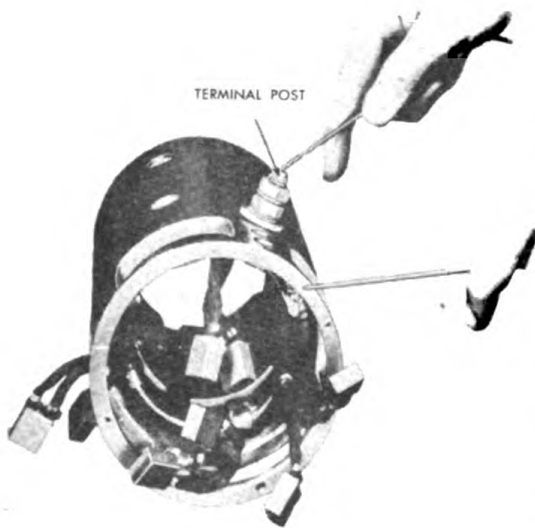
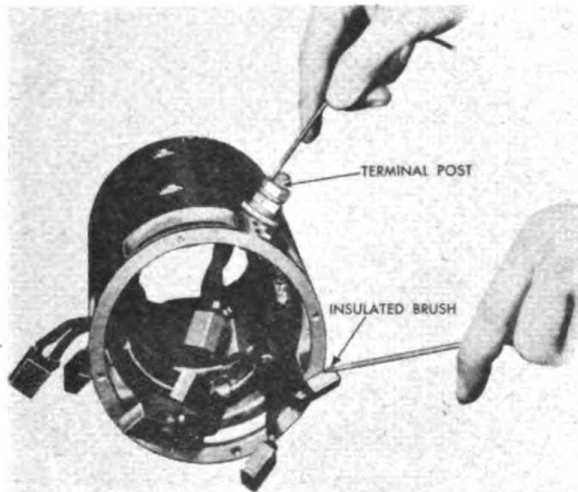

Figure 208. Testing Field Coils for Grounds.
Figure 209. Testing Field Coils for Open Circuits.
B. Check the field coils and terminal posts for grounds and open circuits with test lamp. Make sure the brushes are not touching the frames or connections, and touch one probe to the terminal post and the other probe to the frame as illustrated in Figure 208. If ground is present, the lamp will glow. Touch one probe to the terminal post and the other probe to one of the insulated brushes, as illustrated in Figure 209. If an open circuit is present, the lamp will not light.